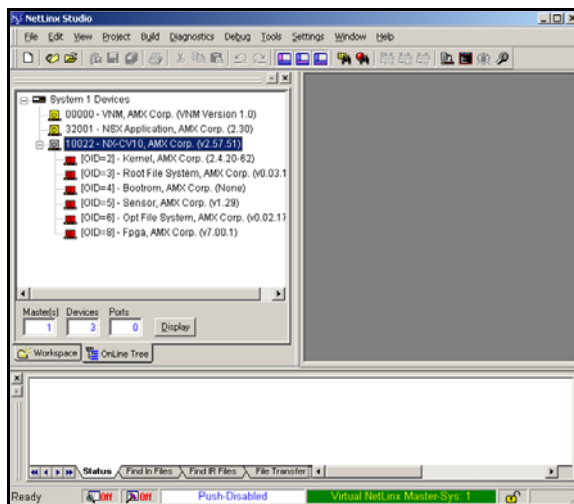

FIG. 57 Using USB for Virtual Master communication
4. Right-click on the System entry (A in FIG. 57) and select **Refresh System**. This causes a refresh of all project systems, establishes a new connection to the Virtual Master, and populates the System list with devices on your particular system.